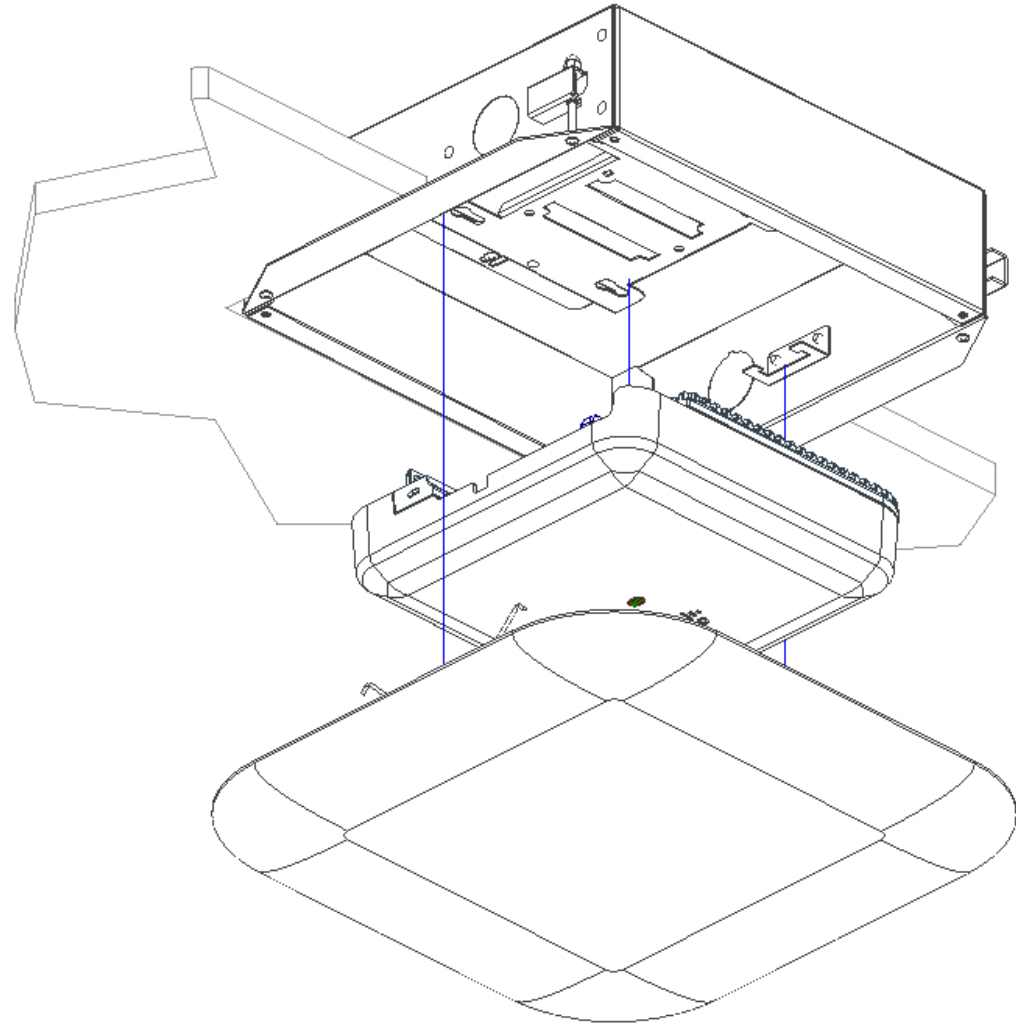

Figure 5 – Trim Install
Step 9 – Slide the AP onto the AP mounting bracket or **AIR-BRACKET** using the AP's feet to lock in place. If not using a Cisco product, follow the Access Point Manufacturer's directions to fasten AP to the T-Bar portion of the mounting bracket . Once the AP is in place, squeeze the springs through the clips on the dome into the retaining clips of the back box. Press the dome until the edges are flush with the wall or ceiling (Figure 5).